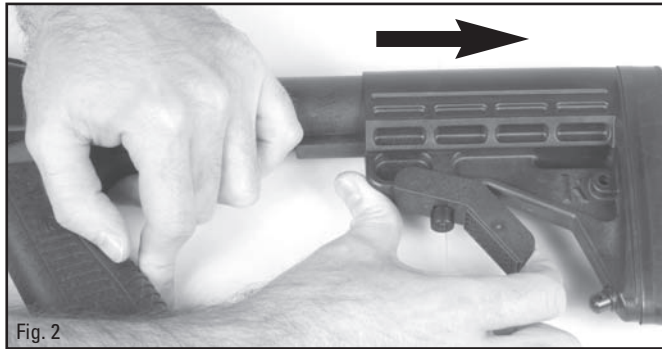

Fig. 2
2. Prepare SpecOps NRS for installation by removing rear butt stock from SpecOps NRS. To remove pull down on lever assembly and slide off buttstock. (Fig. 2)